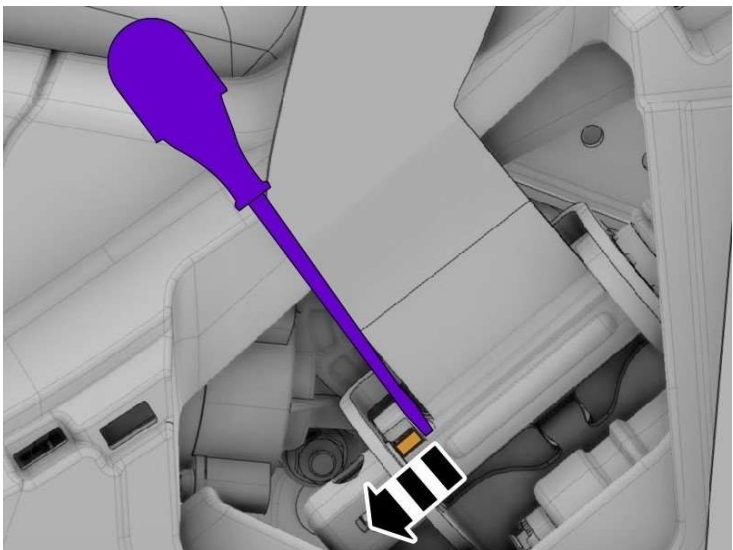

Figure 7
1. Using a flat blade screwdriver, slide the safety belt retaining clip in the direction shown. (Figure 7)